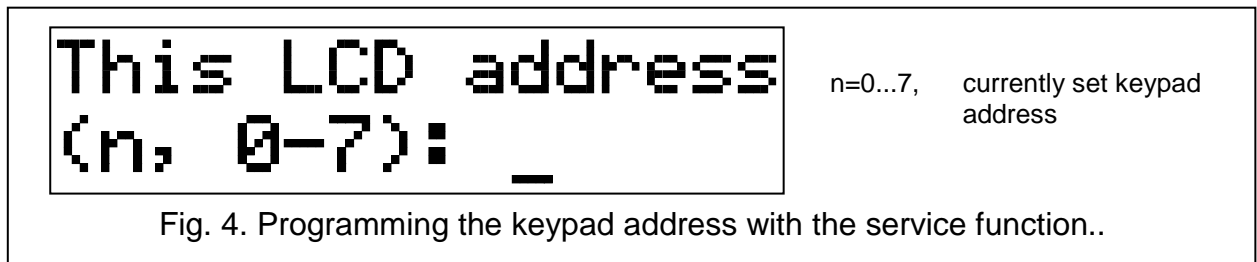

Fig. 4. Programming the keypad address with the service function..
4. The message shown in Fig. 4 will appear on display of all keypads connected to the control panel.